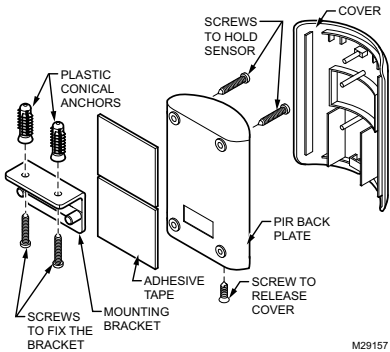

Fig. 11. PIR occupancy motion sensor mounting options.
- c. Ceiling mount option: Align the mounting bracket and PIR back plate as shown in Fig. 11. Insert the two small screws into the top holes of the back plate and secure it to the bracket. Use the two long screws (and, if necessary, the optional plastic anchors) and mount the bracket and PIR back plate to the ceiling.